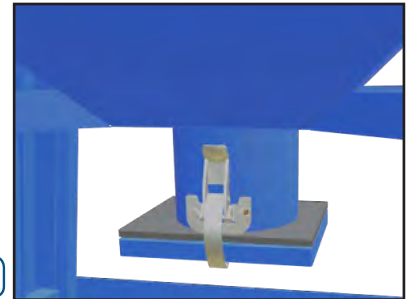

Fig. 2
2. A source of compressed air at **80 psi maximum** is necessary for the operation of the standard bag shaker of your device. You must connect your air source to the point: AIR INTAKE. For the standard model, this action is performed by a manual pneumatic shaker. Simply press the button next to the door about a dozen times (Fig. 2).